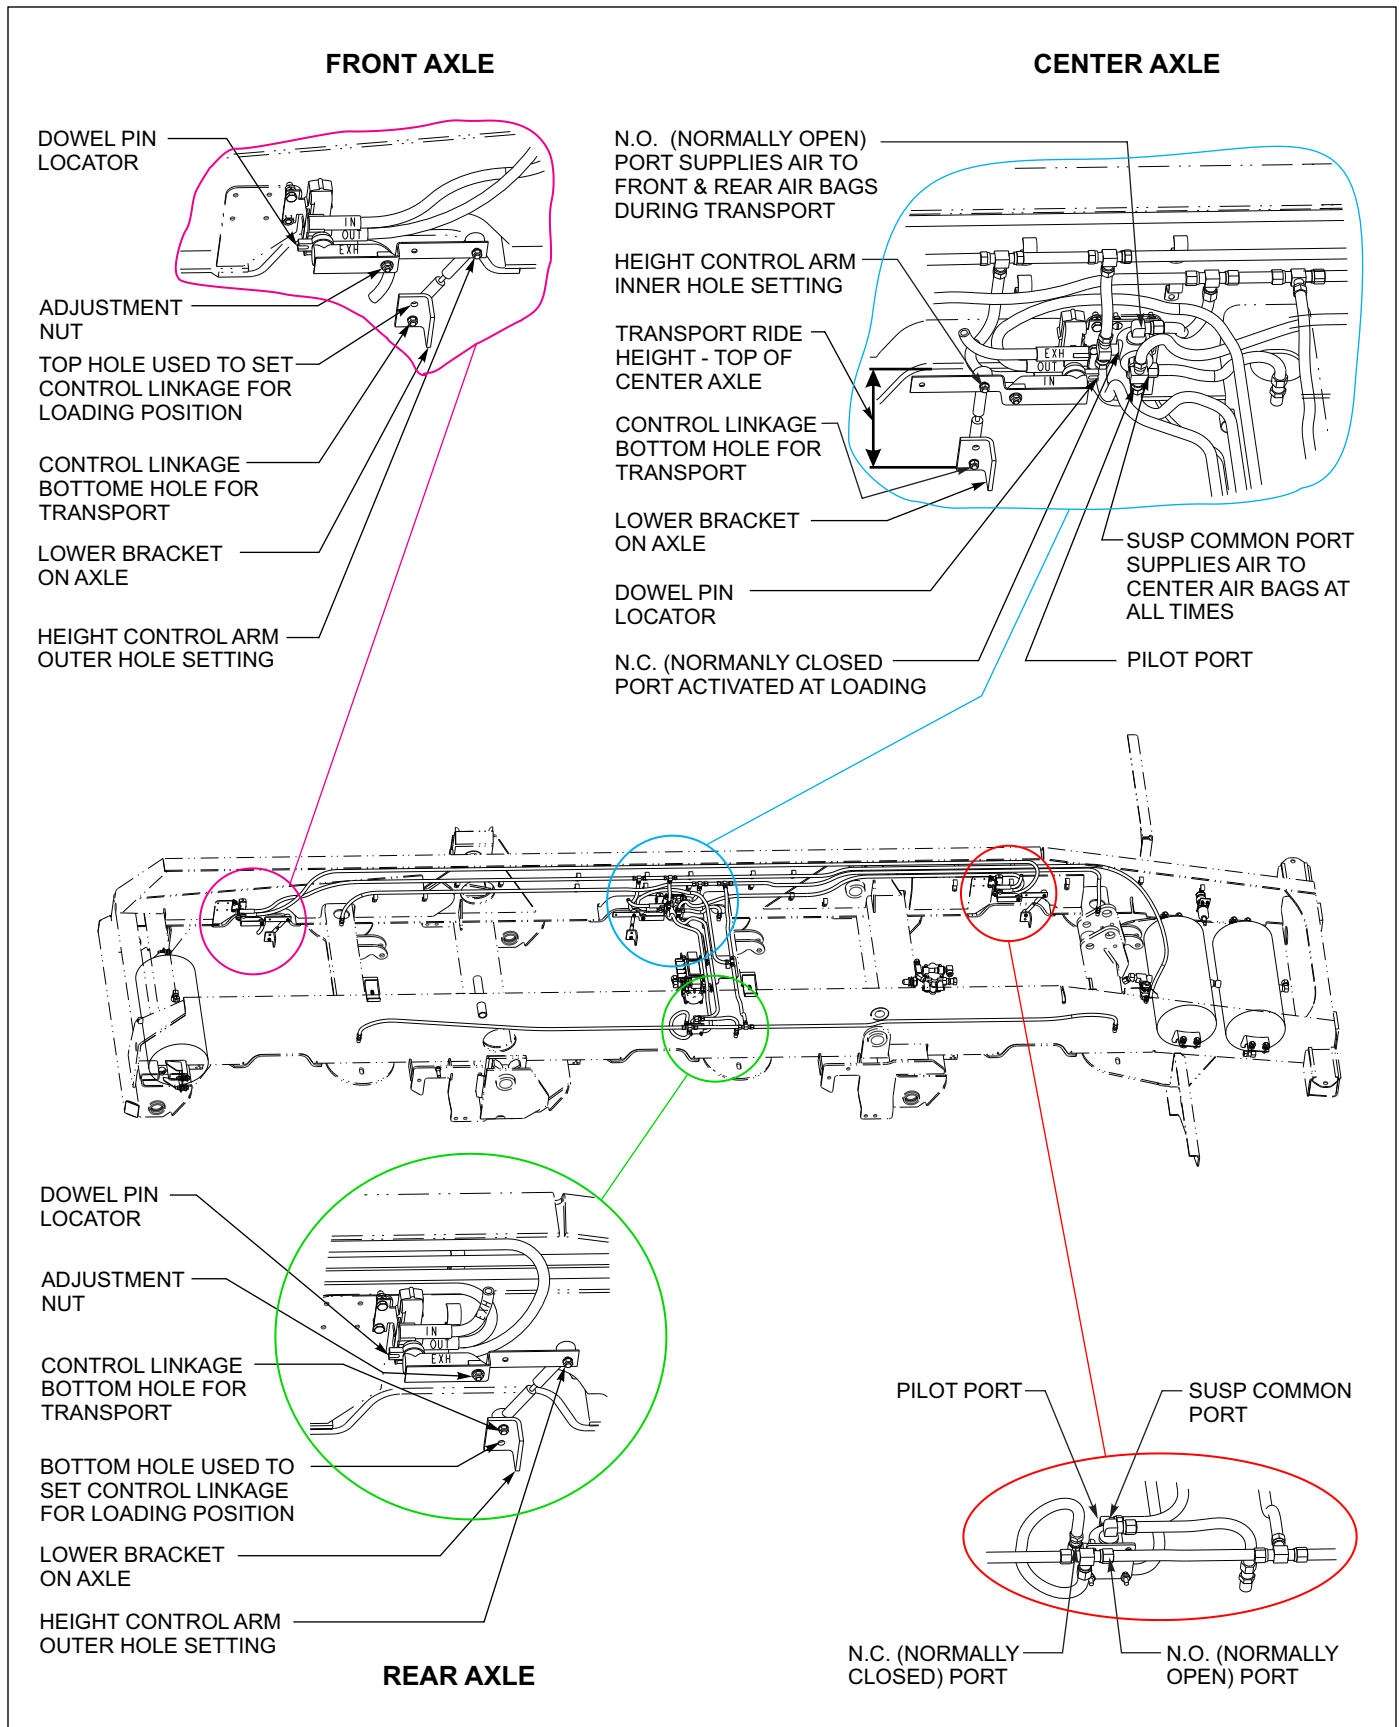

Figure 4-5: Triple Axle Air Ride Suspension System
2. Disconnect linkage at all three control arms and raise the center axle control arm to the "up" position, raising the trailer until a spacer block (3" for 12-1/4 brake) (5" for 16-1/2 brake) can be placed between axle tube and undercarriage frame (**See Figure 4-5.**)
2. Disconnect center axle height control linkage and dowel pin control arm not to move. Put block between top of axle and frame, 3-1/2" set ride height (**See Figure 4-5.**)